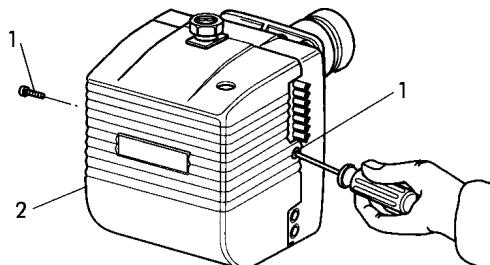

fig.1
To gain access to the main components, remove the cover, as shown in (Fig.1).
- Close the gas cock and disconnect the gas train. Unscrew the screws **1** and remove the cover **2** (fig.1).